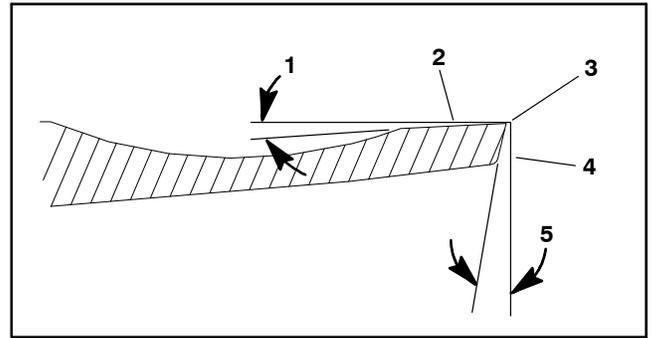

Figure 15
10. When the backlapping operation is completed, stop the engine and remove the key from the ignition switch. Run a file across the front face of the bedknife. This will remove any burrs or rough edges that may have built up on the cutting edge (Fig. 15).